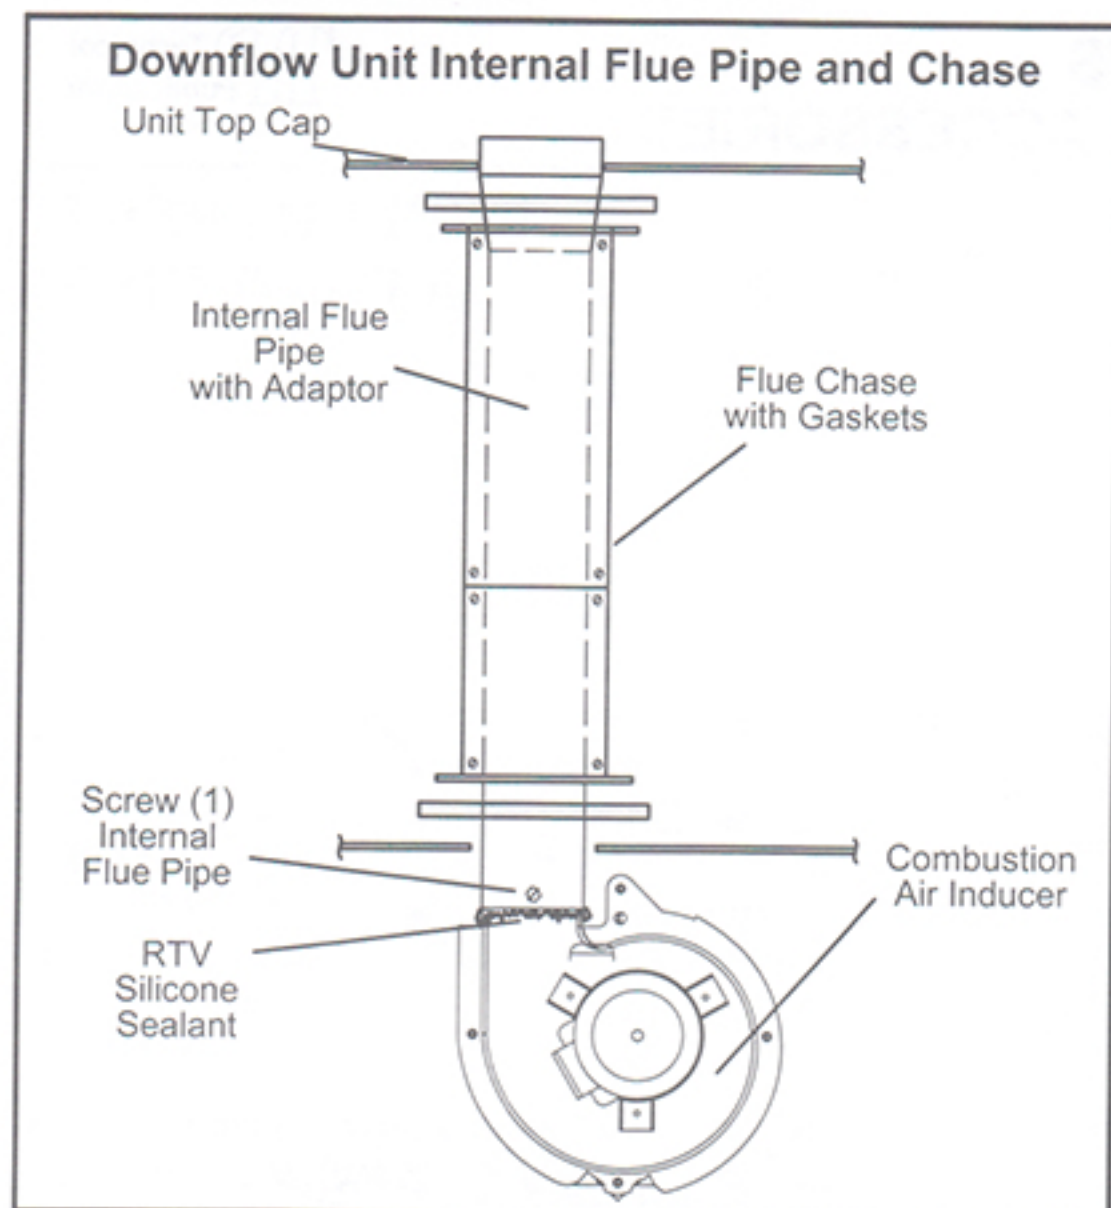

FIGURE 1
- 7 - **Downflow Units Only** -- Remove the screw that secures the internal flue pipe to the combustion air inducer. See figure 1.
- 19 - **Downflow Units Only** -- Scrape away existing Silicone sealant from the internal flue pipe. Apply RTV/high temperature silicone sealant between the internal flue pipe and the combustion air inducer. See figure 1.
Downflow Units Only -- Secure the internal flue pipe to the combustion air inducer using the existing screw. See figure 1.